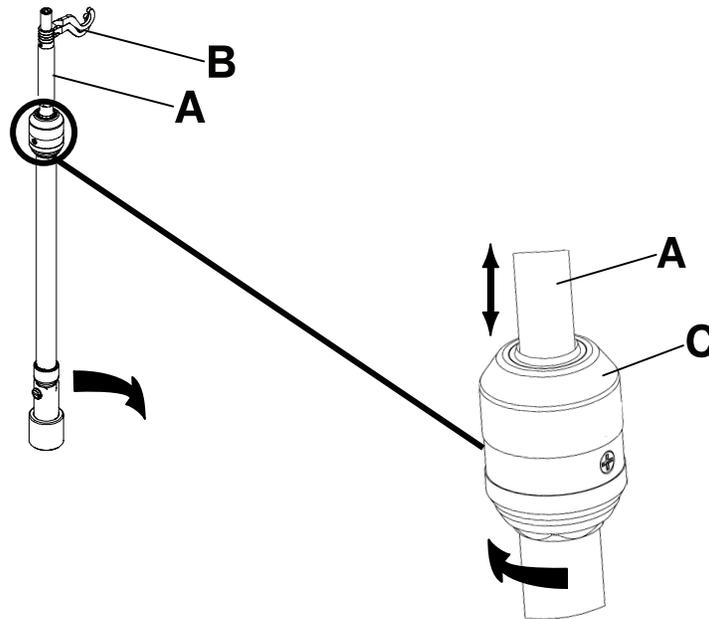

Figure 74: Operating the IV pole
3. To raise the height of the pole, pull up on the telescoping portion (A) until it locks into place at its fully raised position (Figure 74 on page 78).
4. Rotate the IV hangers to the desired position and hang the IV bags (B) (Figure 74 on page 78).
5. To lower the IV pole, turn the latch (C) until the telescoping portion lowers (Figure 74 on page 78).